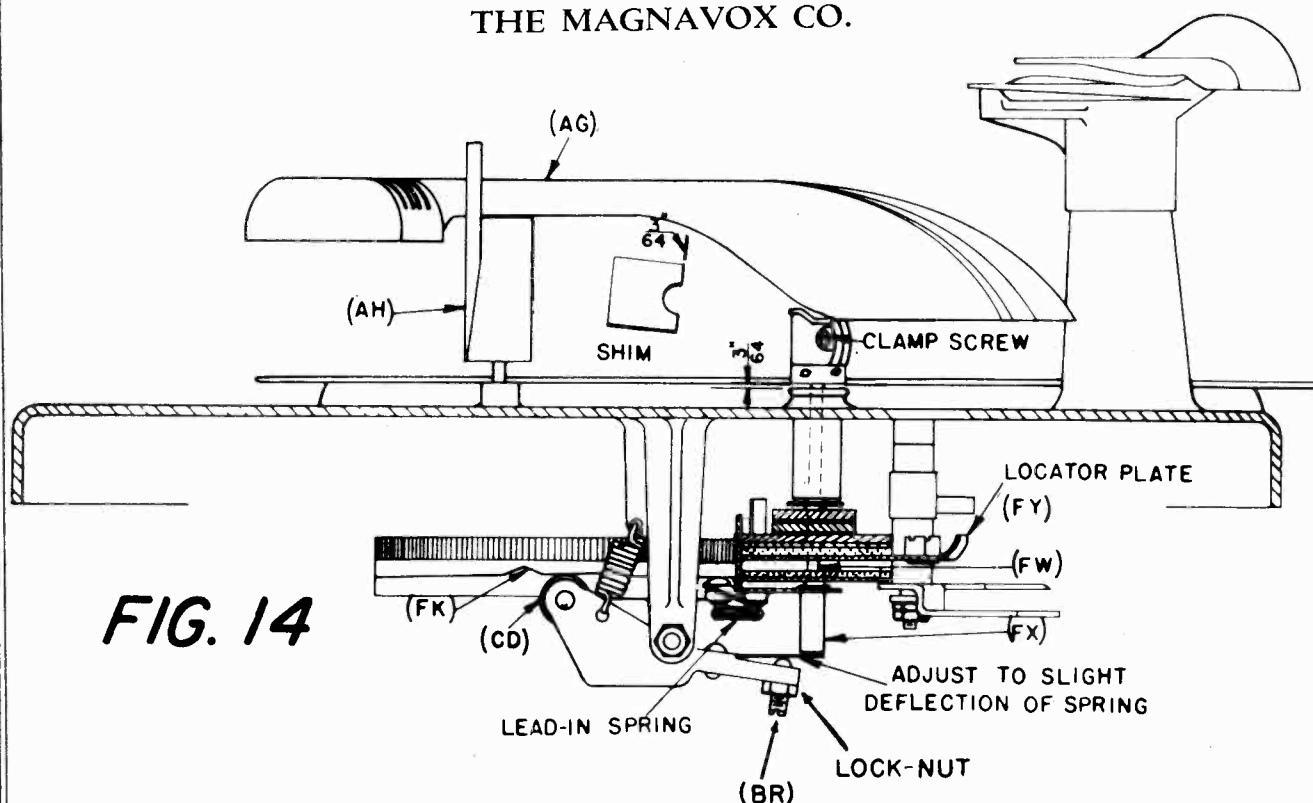

FIG. 14
First slightly loosen clamp screw on tone arm pivot assembly see Figure 14. Then start a change cycle shut off the power supply to motor when the tone arm (AG) is being held in stop position above tone arm rest (AH) and stop lever on the setting cam assembly is contacting a stop lug on locator plate. see Figure 13. Align the tone arm (AG) flush with tone arm rest (AH) as shown in Figure 13 and tighten clamp screw. Check action of the tone arm in a change cycle and make adjustment #1 if the needle landing is incorrect.
To make this adjustment, first put the mechanism into a change cycle and stop it when roller (CD) -- see Figure 14 -- is at the highest point on cam (FK); then loosen the lock nut and turn adjusting screw (BR) under the flat lifter spring clockwise until the tone arm elevating pin (FW) and tone arm shaft (FX) are completely raised, holding the clutch assembly firmly in the "high" position and only slightly deflecting the flat spring. Then tighten the lock nut and check the operation.
CAUTION: Never attempt to loosen the two Allen-head set screws in the tone arm collar except when it is necessary to disassemble the clutch for the replacement of parts. Be sure that there is a vertical clearance of $3/64$ -inch as shown on Figure 14. This is accomplished by inserting a $3/64$ " shim (Magnavox No. 800036) between the shaft collar and bearing washer. Then with the clutch assembly in the "high" position, as mentioned above, tighten the set-screws in the collar to the shaft and remove the shim. Use $5/64$ -inch Allen wrench (Magnavox No. 800016) for making this adjustment.